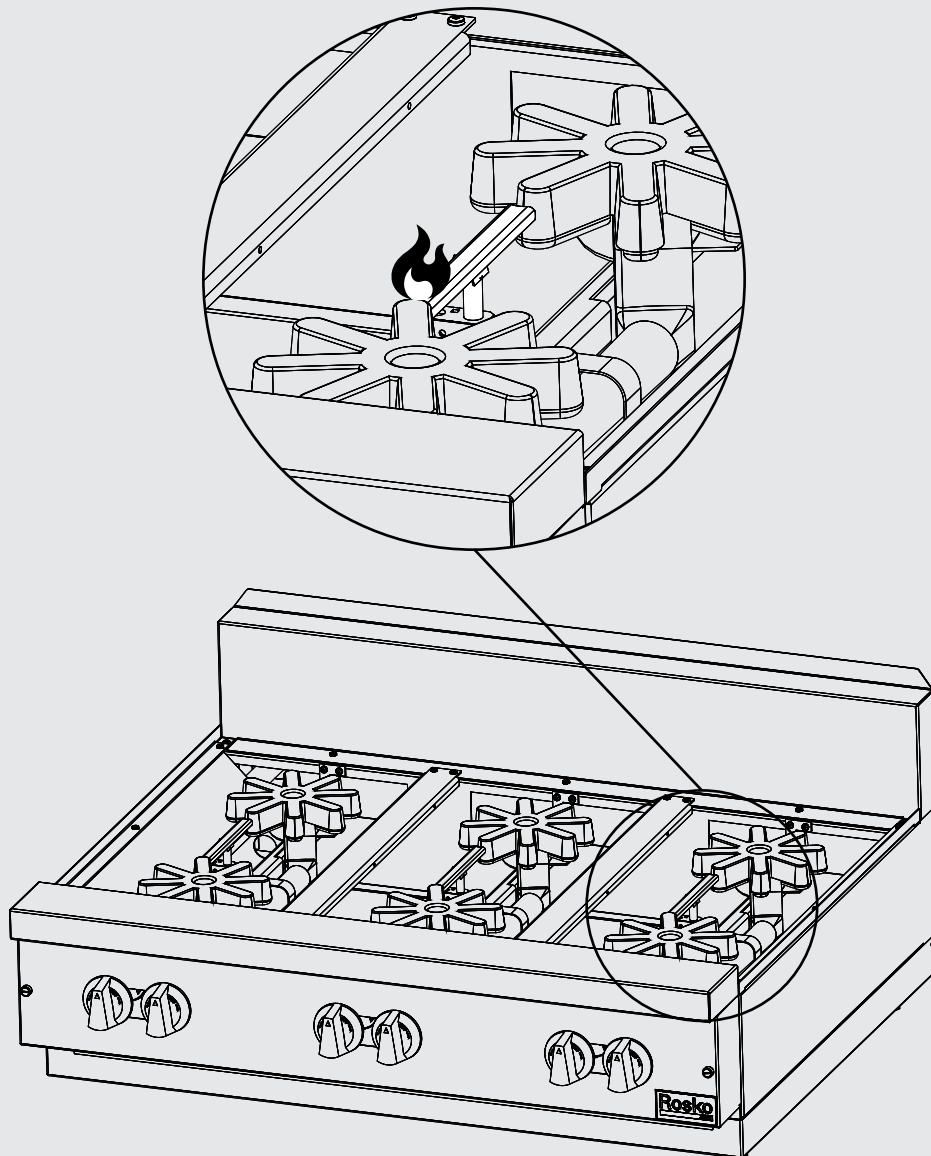

Figure 10
1. Turn the infinity controls to the "OFF" position and wait five (5) minutes.
4. Light on the pilot(s) manually. **(Figure 10)**